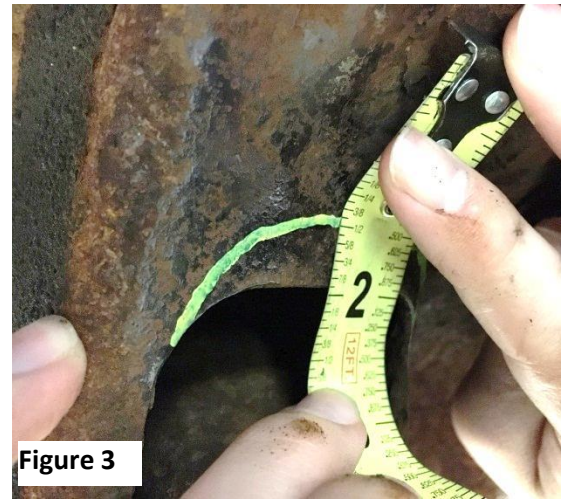

Figure 3
- A. 1978-1996 GM B-body cars will require clearancing of the frame just above the control arm pivots to prevent the control arm from contacting the frame. See **Figure 3**.
3. For GM B-body cars, the area above the front control arm mount will need to be cut approximately 1/2" upwards for proper control arm travel. See **Figure 3**.
3. For GM B-body cars, the area above the front control arm mount will need to be cut approximately 1/2" upwards for proper control arm travel. See **Figure 3.**